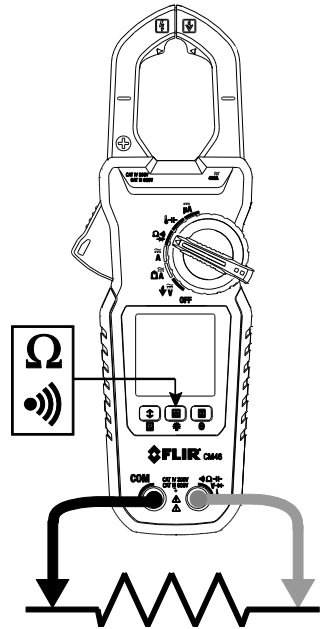

Figure 5-6 Resistance/Continuity Measurements
4. Touch the tips of the probe across the circuit or component under test (see Fig. 5-6).
2. Insert the black probe lead into the negative COM terminal and the red probe lead into the positive  $\Omega$  terminal. Refer to Fig. 5-6 for connection example.